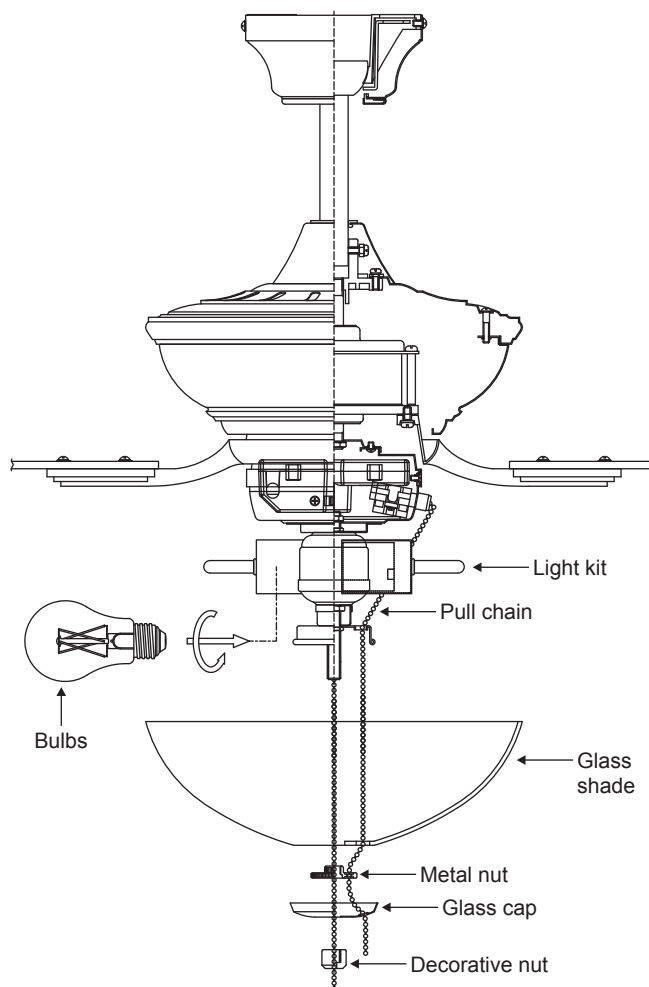

Figure 19
Step 1. Install 2 x 7W LED bulbs (provided). (Fig. 19)
Step 2. Remove the decorative nut, glass cap and metal nut from the light kit. Place glass shade over the light kit stem, secure with the metal nut (rubber side on the top) glass cap and decorative nut. Do not overtighten. Secure tightly the glass cap and decorative nut. (Fig. 19)
Step 3. Insert the 2 pull chain through the eyelet in the shade, nut and cap. (Fig. 19)